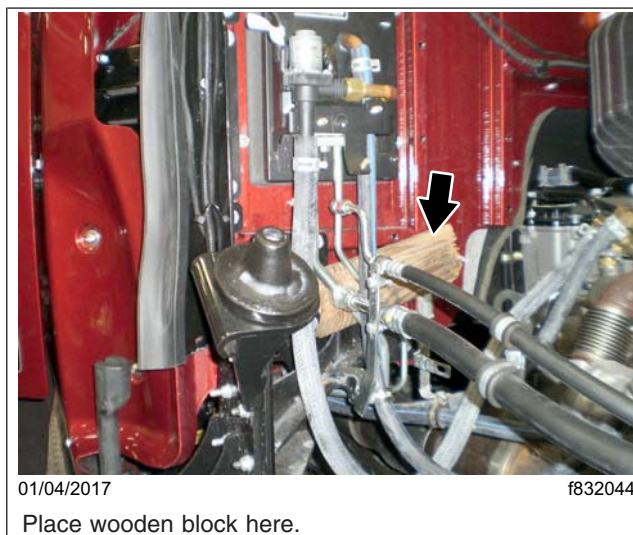

Fig. 1, Wooden Safety Block Placement
3. Secure a block of wood between the HVAC refrigerant lines and the frontwall in the area of the HVAC drain to protect the lines when drilling the new drain hole. See Fig. 1.